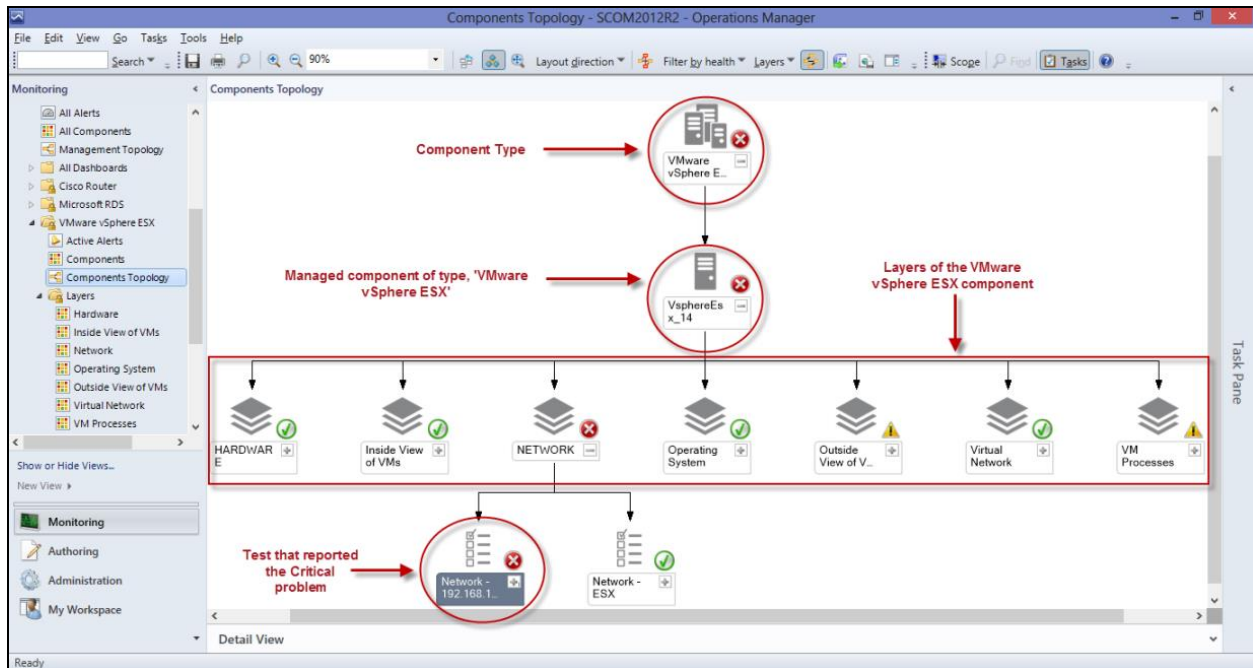

Figure 3.18: The topology representation revealing the exact component of a type, layer of component, and test mapped to the layer that is a Critical state
- For a more graphical, comprehensive view of the performance of a component type, click on the **Components Topology** node (see Figure 3.18). An icon representing the *VMware vSphere ESX* component type will then appear. Using an intuitive icon and a conventional color code (Red), the component-type representation clearly indicates that the *VMware vSphere ESX* component-type is in a Critical state presently. To know which vSphere servers have contributed to this abnormal state, drill down by clicking the '+' icon alongside. This will reveal all managed vSphere servers and their current state. In the case of our example, only a single vSphere server has been managed. We can infer from Figure 3.18 that this vSphere server is in a Critical state presently. To understand why, click on the '+' icon alongside the vSphere server (i.e., component) representation in Figure 3.18.